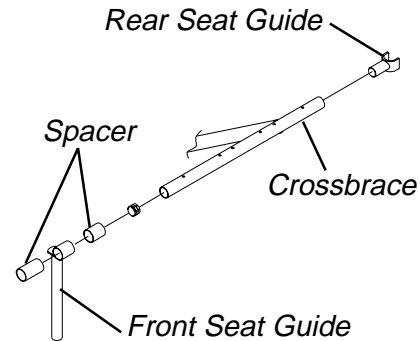

FIGURE 6 - ALL REMOVABLE ARM WHEELCHAIRS - EXCEPT TRACER IV
**ALL REMOVABLE ARM WHEELCHAIRS - EXCEPT TRACER IV (FIGURE 6).**
- b. Remove the two (2) spacers and front seat guide from the crossbrace.